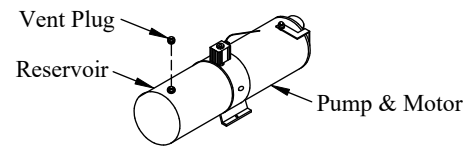

Figure 14: Vent plug.
7. **Install** the vent plug provided into the pump reservoir (Figure 14).